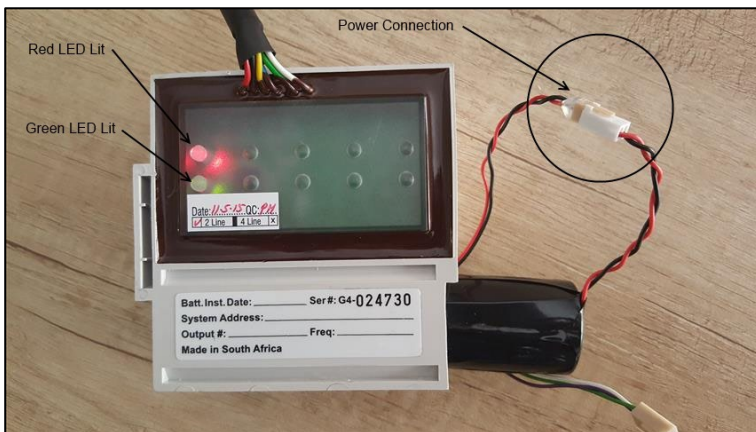

Figure 14: Battery Plugged in
- Referring to Figure 14 below, plug the battery connector socket into the radio receiver modules power connector plug (red and black wires).